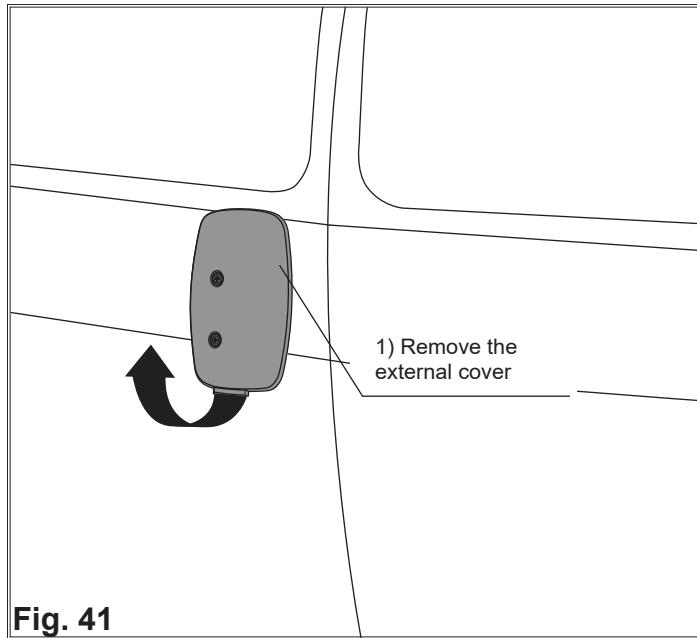

Fig. 41
1. Remove the cover, if present, (Fig. 41).